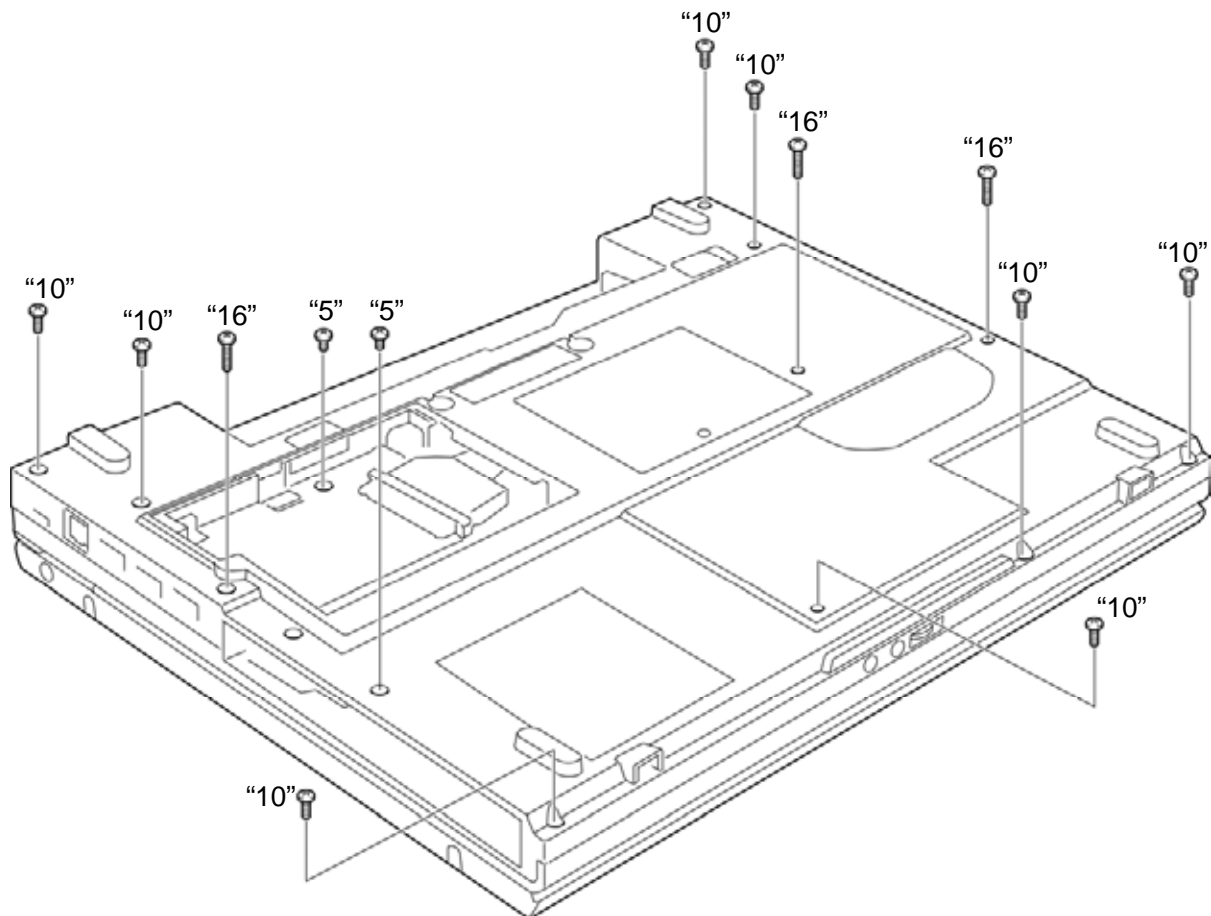

Figure 4-28 Removing the cover assembly and base assembly(1)
To remove the cover assembly and base assembly, follow the steps below and refer to Figure 4-28 to 4-30.
To install the cover assembly and base assembly, follow the steps below and refer to Figure 4-28 to 4-30.
- M2.5×16B FLAT HEAD screw ×3 (“16” in the figure 4-28)
- M2.5×10B FLAT HEAD screw ×8 (“10” in the figure 4-28)
- M2.5×5B FLAT HEAD screw ×2 (“5” in the figure 4-28)